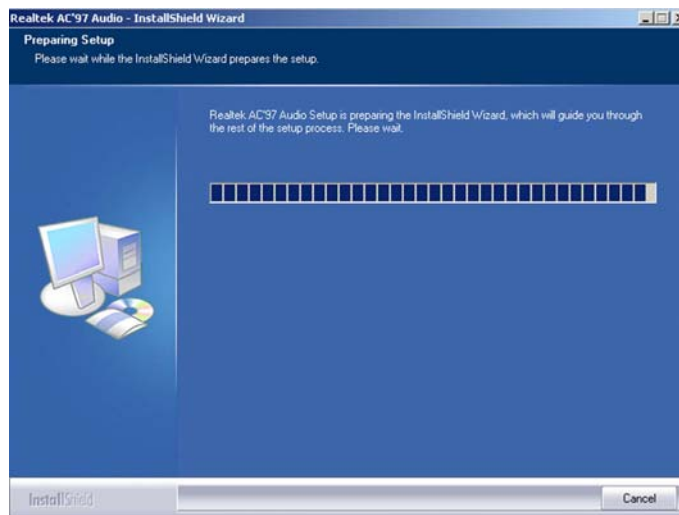

Figure 7-7: Audio Driver Setup Preparation
- Step 3:** The RealTek Audio Setup prepares the install shield to guide through the rest of the setup process. See **Figure 7-7**.